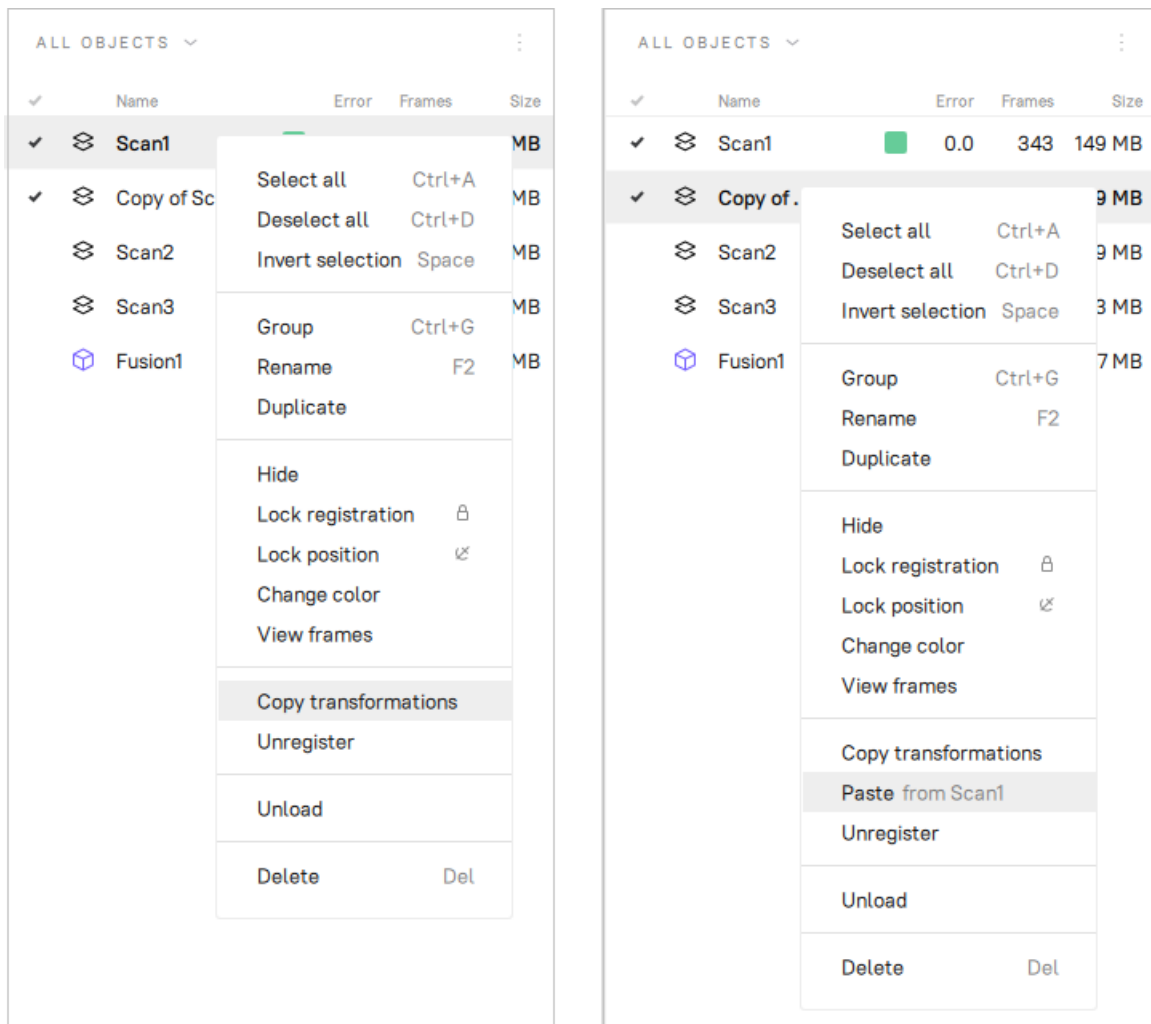

Figure 136: Transferring transformations: copying transformations (left) and pasting them (right)
1. In the Workspace panel, right-click the source scan and choose *Copy Transformation* from the context menu (see Figure 136, left). The transformations of the source scan and its frames will be saved.
3. Right-click the selected scan(s) and from the context menu choose *Paste from <source scan name>* (see Figure 136, right).